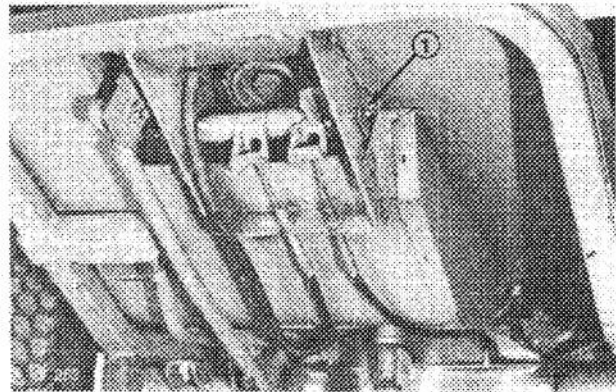

Figure 33
6. Wipe brake pivot pin with a rag to remove dirt and grease. Hold left brake pedal, which can be identified by an additional welded bracket, in position and install pivot pin through side plate and brake pivot. Hold right brake pedal in position and push the pin through the brake pivot and opposite side plate. Tab end of pin (Fig. 33) must engage bottom edge of side plate to prevent pivot pin from rotating and causing wear. Install locknut on end of pivot pin to hold all parts in place.